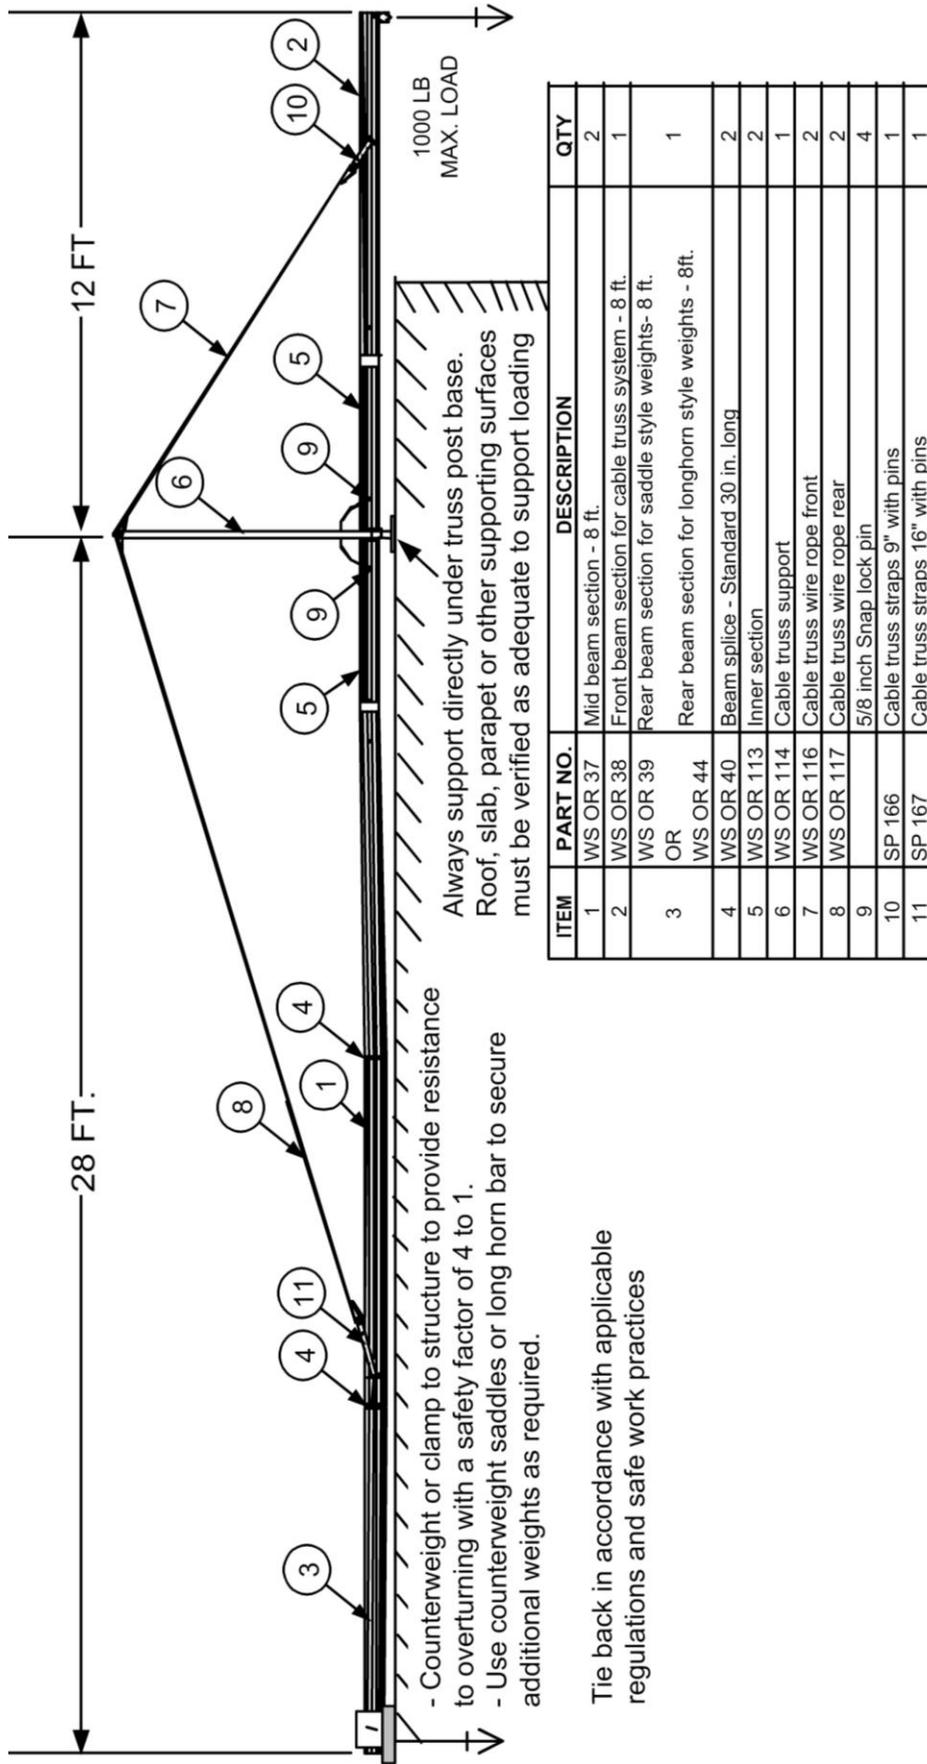

Figure 16. 12 FT. Reach Cable Truss System
1. Installation of the 12’ reach Cable Truss System requires a clear space of at least 28 feet behind the parapet. The Cable Truss System is assembled in the sequence: Rear Beam, Beam Splice, Mid Beam, Beam Splice, second Mid Beam, Inner Section, Cable Truss Support, Inner Section and Front Beam (see Figure 16).
5. Pin the Cable Truss Strap (SP 167) to the Mid Beam using the Retaining Pin (SP 169) replacing the normal splice pin (see Figure 16).